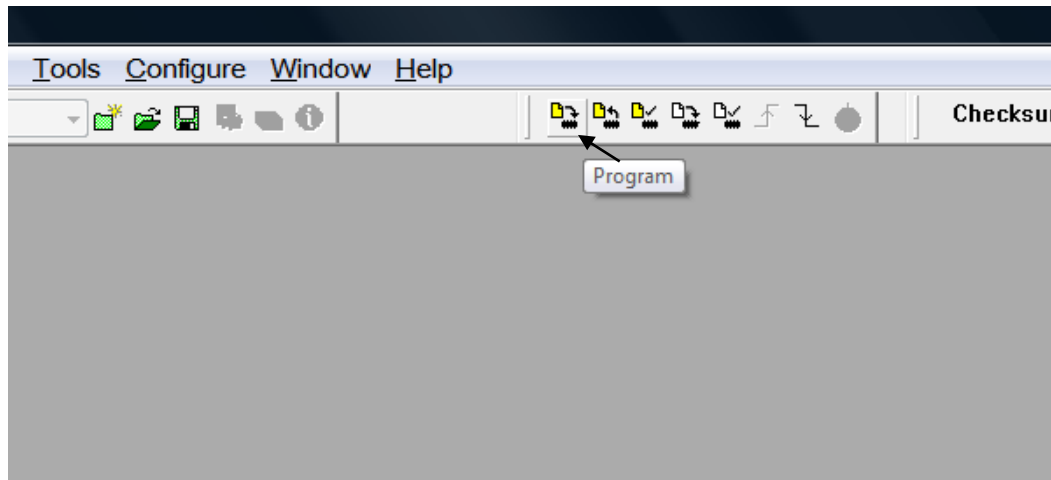

FIGURE 6-10
- 6.3.1** To write a program to the PIC-P40, you first create a new project and write the code the same way you would if you were using the simulator. Once you've finished coding, build the project. If there are no errors, you can then write the program to the PIC-P40 by clicking on the Program target device icon on the programmer toolbar. See Figure 6-10.